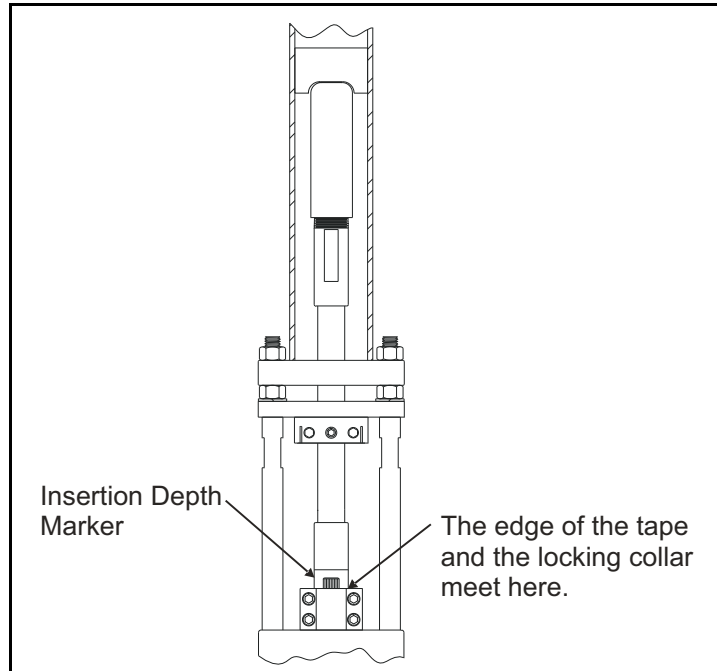

Figure 45: Checking the Insertion Depth Marker
7. Refer to *Figure 45* below and check the condition of the insertion depth marker. If it was erased or otherwise damaged, replace the marker with one layer of colored electrical tape around the transducer circumference until the ends overlap. Place the edge of the tape against the edge of the locking collar.